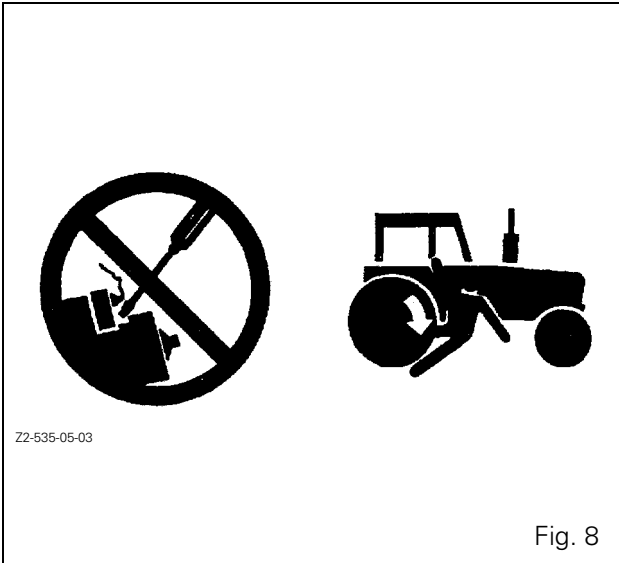

Fig. 8
**DANGER:** Start the engine with the starter key, from the driver's seat only. **DO NOT ATTEMPT to start the engine by short-circuiting the starter terminals. The machine will start in gear if the neutral start circuit is bypassed. This could cause serious injury or death to anyone in the vicinity of the tractor (Fig. 8).**